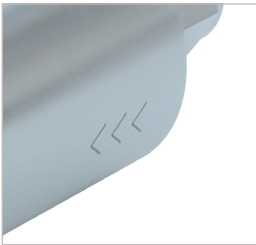

Figure 1
**Attention:** Observe the direction of the flow – the flow direction is marked on the filter housing (*Figure 1*).